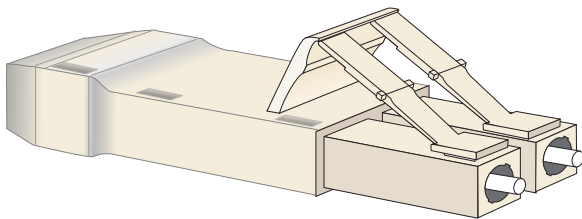

Figure 5 Loopback plug
- **Loopback plug**—An SFP multi-mode (short-wave laser) or single-mode (long-wave laser) loopback plug (Figure 5), is required to perform port loopback diagnostic tests. One loopback